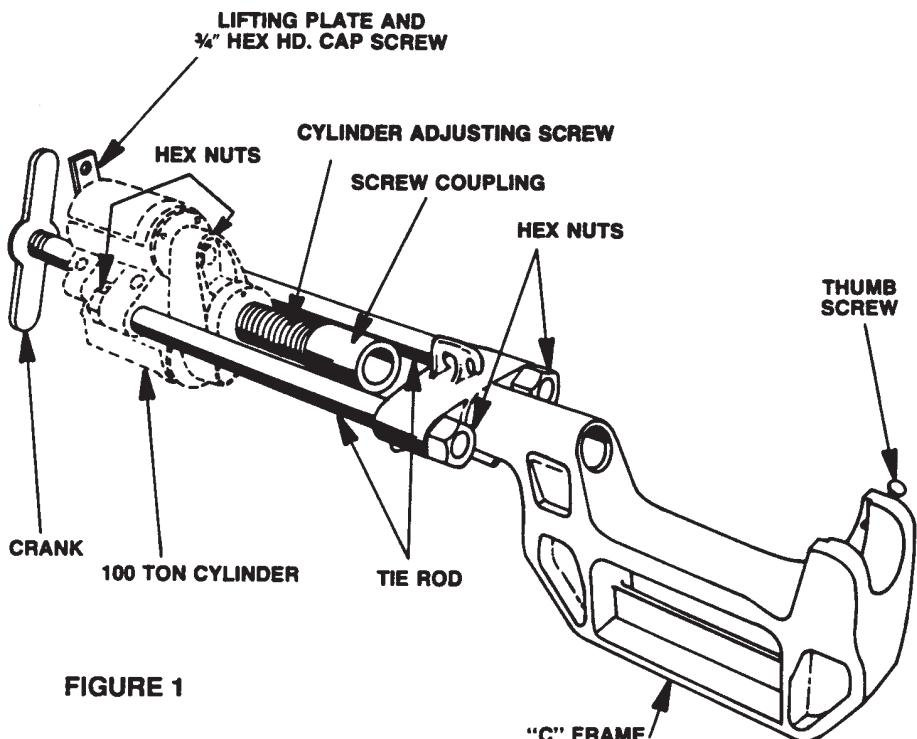

FIGURE 1
*(Refer to Figure 1 and Parts List #100516 during assembly)*